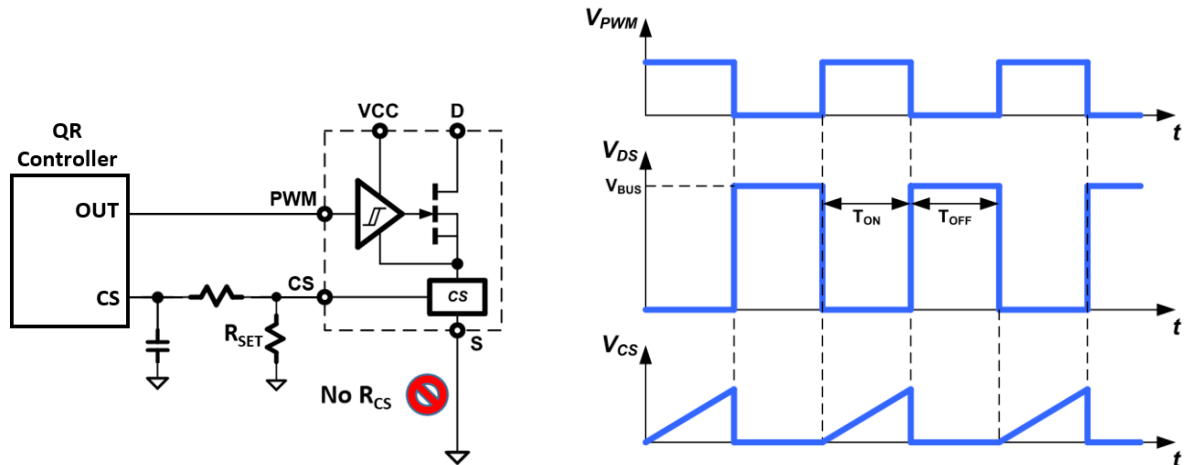

Fig. 26. Current sensing circuit and timing diagram
For many applications it is necessary to sense the cycle-by-cycle current flowing through the power FET. Existing current sensing solutions include placing a current sensing resistor in between the source of the power FET and P_{GND} . This resistor method increases system conduction power losses, creates a hotspot on the PCB, and lowers overall system efficiency. To eliminate this external resistor and hotspot, and increase system efficiency, this IC includes GaNSense™ Technology for integrated and accurate loss-less current sensing. The current flowing through the internal GaN power FET is sensed internally and then converted to a current at the current sensing output pin (CS). An external resistor (R_{SET}) is connected from the CS pin to the S pin and is used to set the amplitude of the CS pin voltage signal (Fig. 26). This allows for the CS pin signal to be programmed to work with different controllers with different current sensing input thresholds.